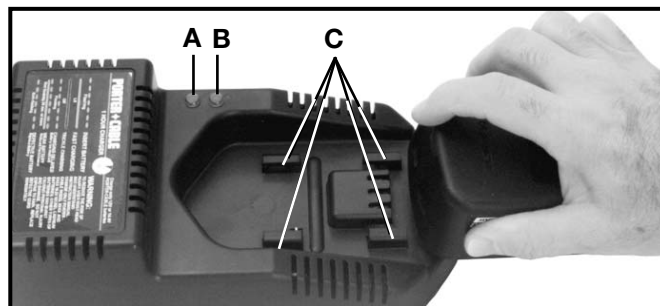
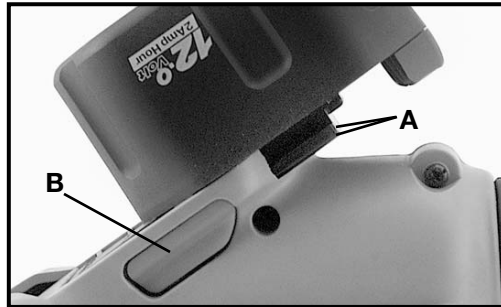

Fig. 23
Fig. 24
Make sure power circuit voltage is the same as that shown on the charger specification plate. Connect charger to power source. The green light (A) Fig. 23, should begin to flash. This indicates the charger is ready to begin charging.
Position battery pack on charger, align rails (A) Fig. 24 on battery pack with four tabs (C) Fig. 23 on charger. Slide battery forward onto charger until it stops.
The green light (A) Fig. 23, should begin to glow continuously, indicating that the battery pack is receiving a "Fast Charge" (if the green light does not glow continuously, or if the red light (B) Fig. 23, also begins to flash: see DIAGNOSTICS). After approximately one hour, the "Fast Charge" indicator light should go out indicating that the battery pack is fully charged and that the charger is now in a "Trickle Charge" mode. The battery pack can be left on "Trickle Charge" until you are ready to use it.
The Porter-Cable Charger is equipped with a diagnostic system that automatically checks the battery pack each time a pack is inserted into the charger. If no problems are found, the charger will automatically switch to “Fast Charge” mode as described in NORMAL CHARGING. If a problem is found, it will be indicated by the charger indicator lights (see Fig. 23), as follows:
TO REMOVE BATTERY PACK: Depress the battery release button (B) Fig. 24, and pull battery pack out of tool. **NOTE:** As an added safety feature, depressing the battery release button opens the internal pressure relief valve.
TO INSTALL BATTERY PACK: Align rails (A) Fig. 24, on battery pack with slots on tool and push battery pack onto tool until it locks in place.